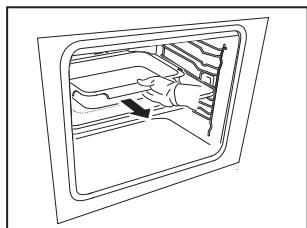

Fig. 1
1. Using both hands, grasp the front handle and partially remove the cooking vessel (Fig. 1).